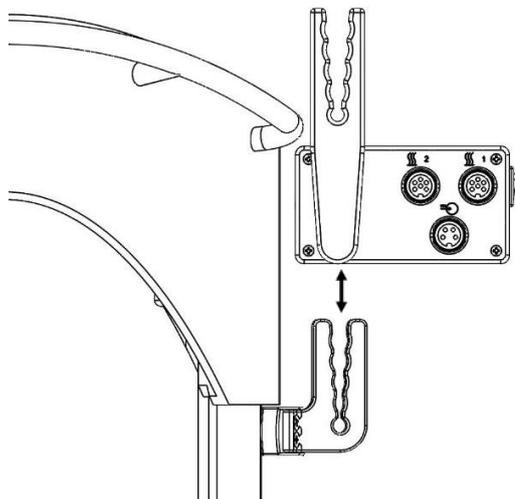

Figure 6
1. Remove the **Thermia Pro** Console from the packaging and suspend it in the tube holder of the **Vacusat® power** (see Figure 6).